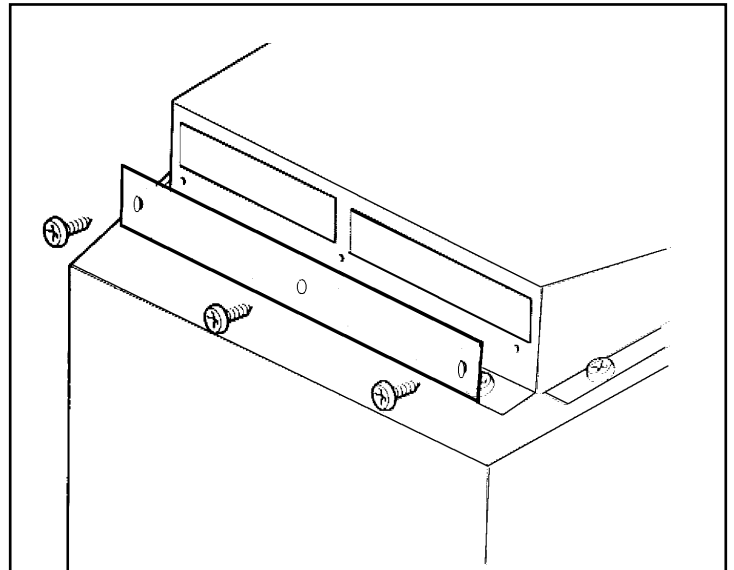

Figure 14. Flue Restrictor
8. The restrictor is packed loose with the appliance and is fixed with three screws. See figure 14.